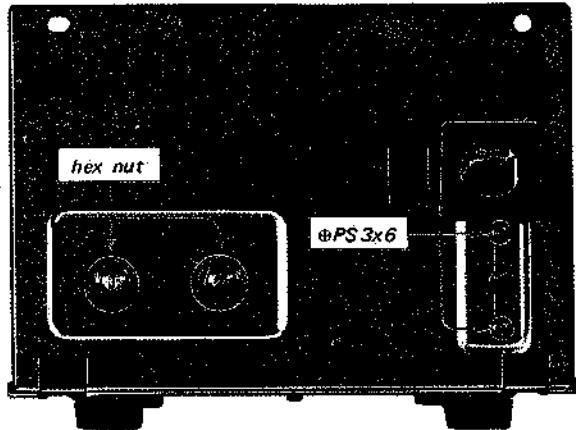

Fig. 2-5. Control and switch replacement
1. Remove the two screws ($\oplus PS\ 3\times 6$) securing the defective switch to the front sub-chassis as shown in Fig. 2-5.
1. Remove the hex nuts that secure the controls to the front sub-chassis as shown in Fig. 2-5.